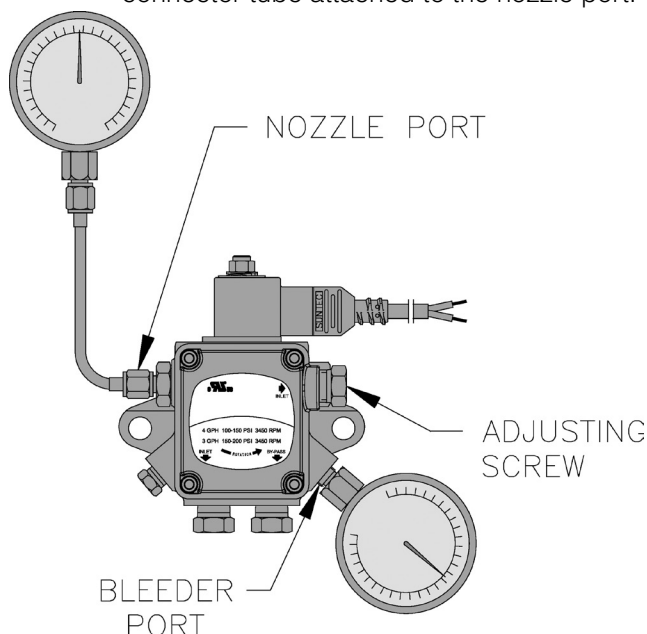

Figure 8-6: Adjusting Fuel Pump Pressure
- a. When checking a fuel unit's operating pressure, a reliable pressure gauge may be installed in either the bleeder port or the nozzle port. For Beckett burner refer to Figure 8-6.